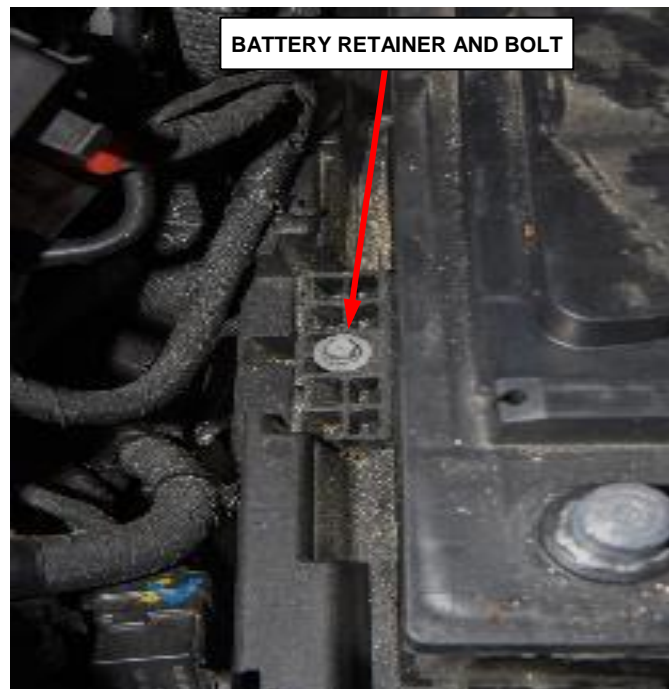

Figure 9 – Battery Retainer and Bolt
9. Remove the battery retainer bolt and remove the retainer that holds the battery to the tray (Figure 9).
24. Install the battery retainer and bolt to the vehicle. Tighten the bolt to 8 N·m (71 in. lbs.) (Figure 9).